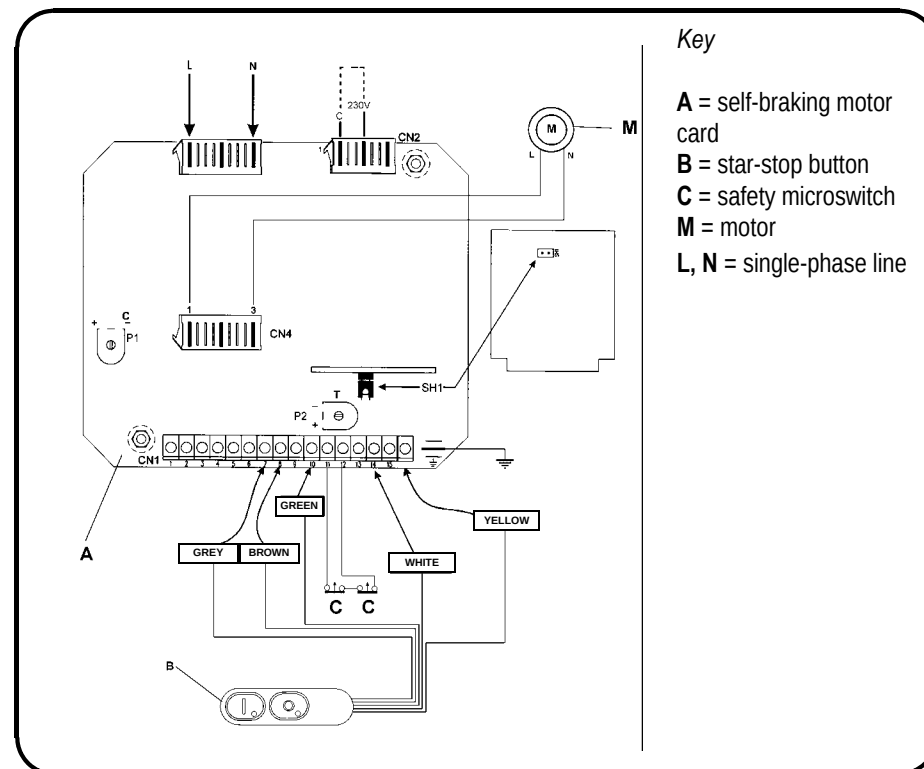

Fig. 2.6.2
2.6.2 Single-phase wiring diagram at 230V (Fig. 2.6.2)